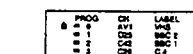

Fig. 25
- 4 Using Δ+ or ∇-, select the programme position you want to block and press OK. The symbol  appears in front of the programme number indicating that this programme is now blocked. (See Fig. 25.)